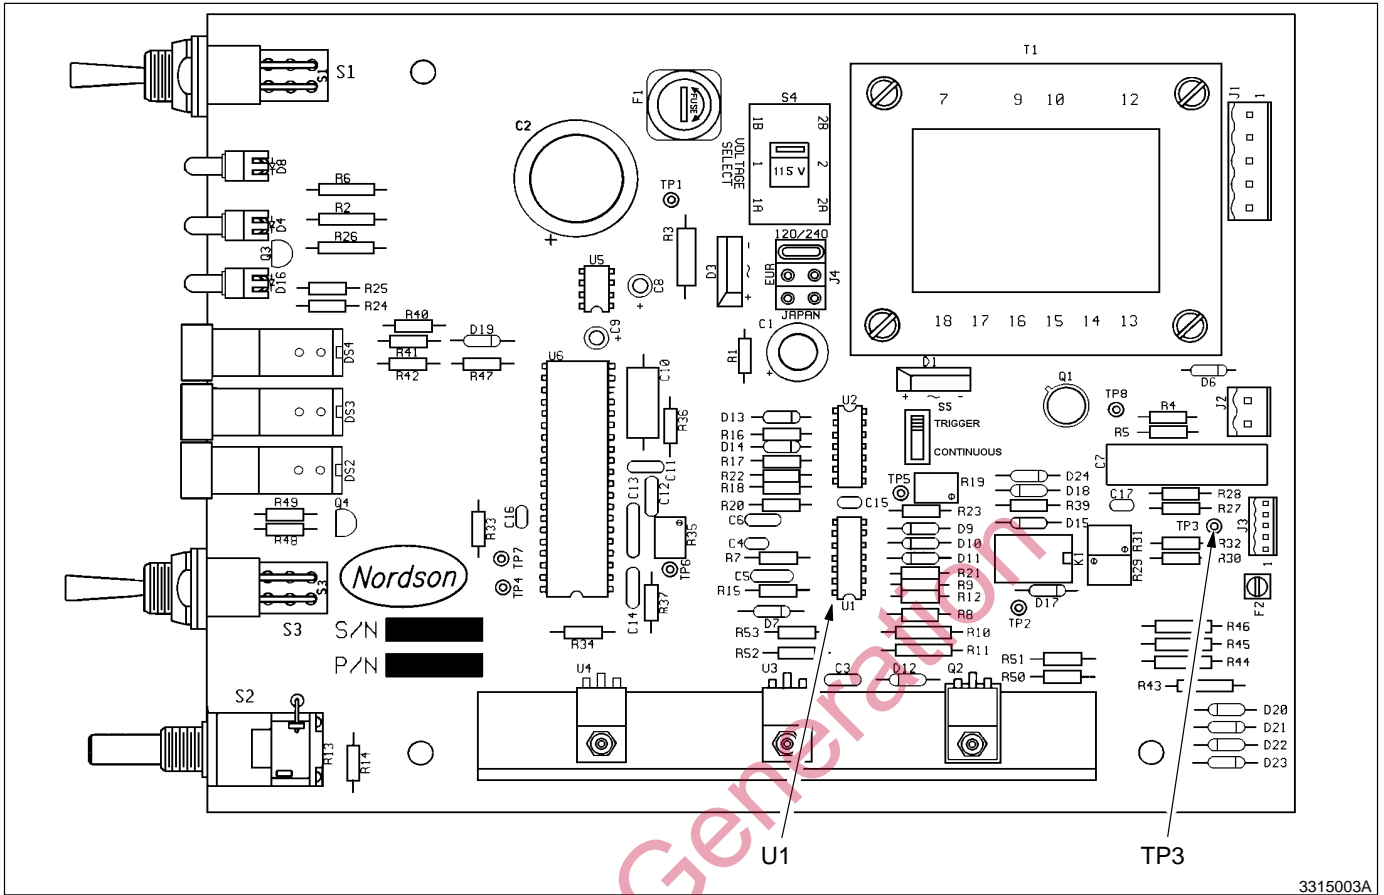

Figure 3 Control module circuit board – U1 and TP3 locations
2. See Figure 3. Locate the U1 IC chip on the control module circuit board.
8. See Figure 3. Connect the hook probe to test point TP3 on the control module circuit board.